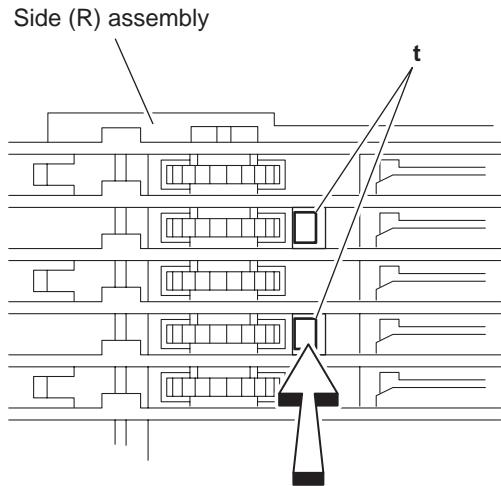

Fig.22
(See Fig.22 to 26)
- (1) From the inside of the side (R) assembly, release the two tabs **t** of the gear cover and remove the gear cover outward. (See Figs.22 and 23.)